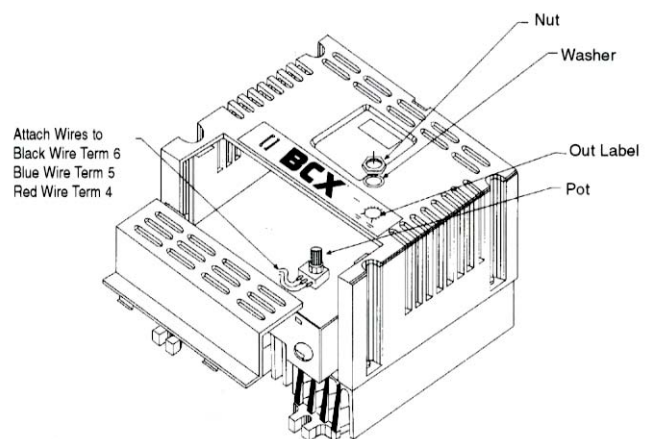

Figure 10.
3. Cut around the perimeter of the potentiometer mounting hole in the label on the front of the controller cover. For location, see Figure 10.